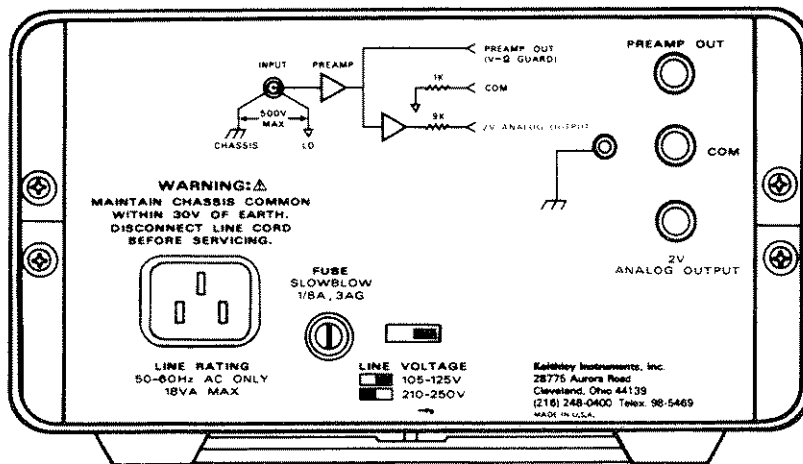

Figure 1-2. Model 614 Rear Panel
5. **LO**— This terminal provides a connection to input LO through a 1k Ω resistor (see rear panel schematic Figure 1-2).